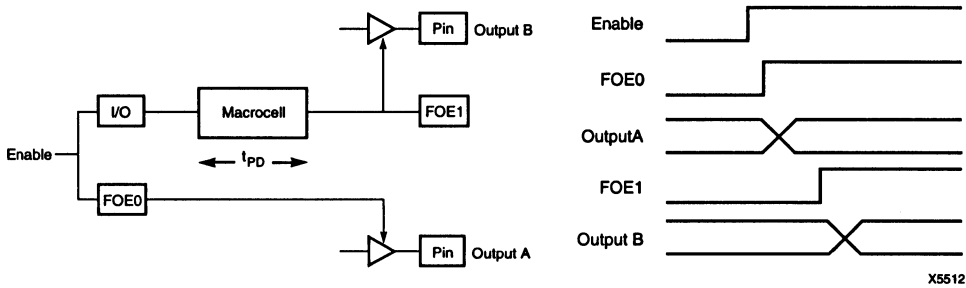

Figure 15. Output Enable Skewing Technique
2. Minimize the number of outputs switching simultaneously. This can be accomplished by skewing the output enable signals FOE0 and FOE1. One way to do this is to simply route an enable to FOE0, and pass the same enable signal through a macrocell for delay, to drive FOE1. This is shown in Figure 15 and results in one TPD of time delay.